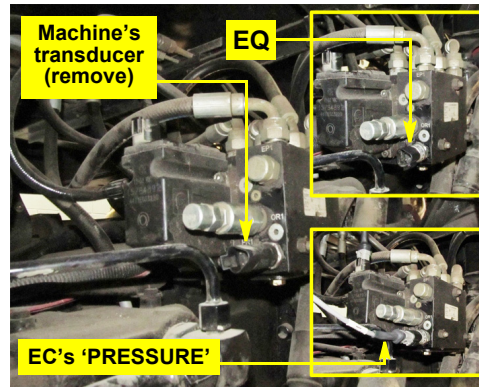

Figure 3e: Pressure transducer replacement
- g. Locate the machine's existing PVE pressure transducer in the PVE block (Figure 3e - see also step 3f). Remove it and install replacement transducer **EQ** (Figure 3e top inset). Connect **EC**'s branch cable labeled 'PRESSURE' to the newly installed transducer (Figure 3e bottom inset).